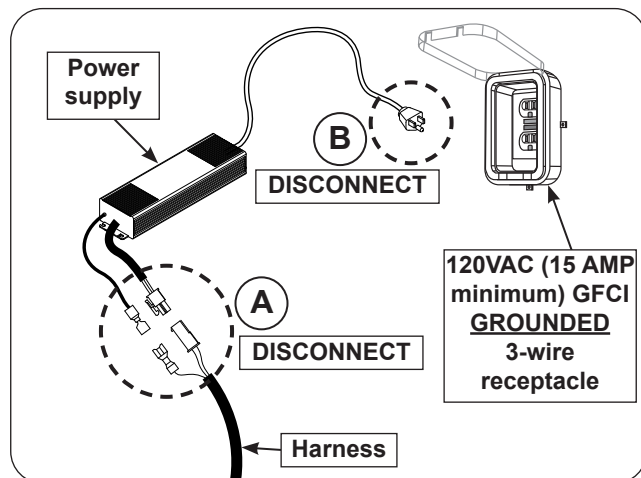

Fig. 43-1 Perform system reset
2. Disconnect the harness from the power supply (see Fig. 43-1, A).
3. Disconnect the power supply from the power source. (see Fig. 43-1, B).